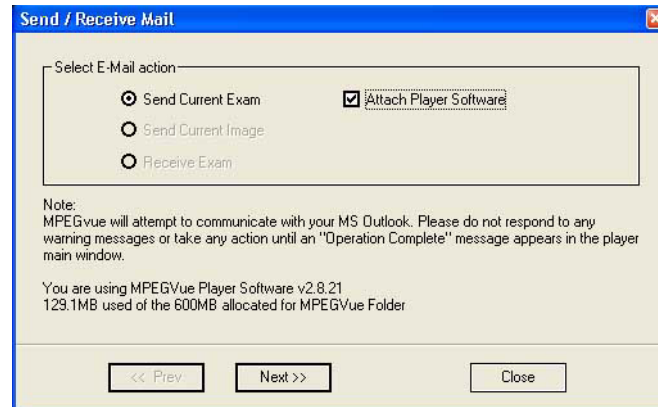

Figure 3-163 E-mail Dialog Box - Sending Current Exam
The *E-mail Dialog* box is displayed (see Figure 3-163 on page 3-156).
- 2) Activate the **Send Current Exam** radio button (and if necessary, the **Attach Player Software** check box), as shown in Figure 3-163 below.